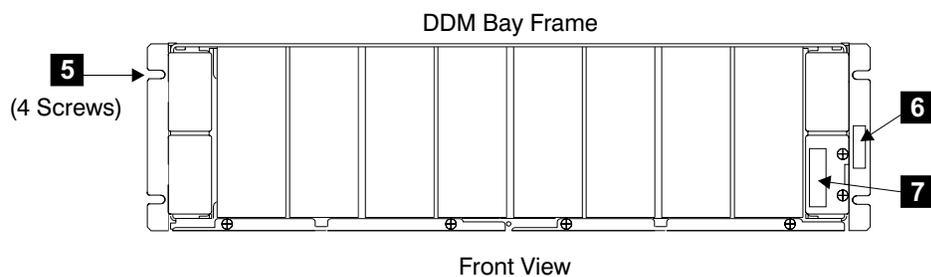

Figure 17. DDM bay Serial Number Plate Location (S007734I)
10. Remove the four DDM bay mounting screws, **5** in Figure 17, from the front of the frame assembly.